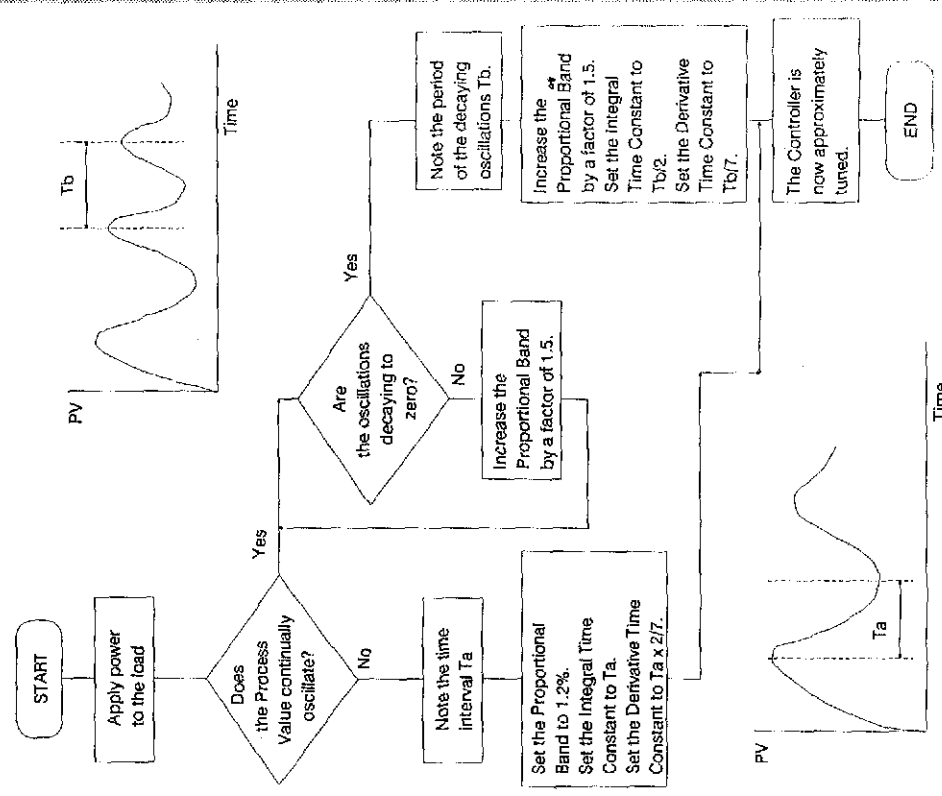

Figure 4-2 Tuning - Output 1 Only or VMD Output
3. Proceed as shown in Figure 4-2. At each stage, allow sufficient time before moving to the next stage.
1. Set the set point (SP) to below the normal operating process value (significantly lower if overshoot beyond this value is likely to cause damage).
2. Set the proportional band (PB) to 1%, set the integral time constant (rSEt) to its maximum value (99 minutes 59 seconds) and set the derivative time constant (rAIE) to zero.
5. Follow the instructions shown in Figure 4-2, allowing sufficient time at each stage before performing the subsequent stage.